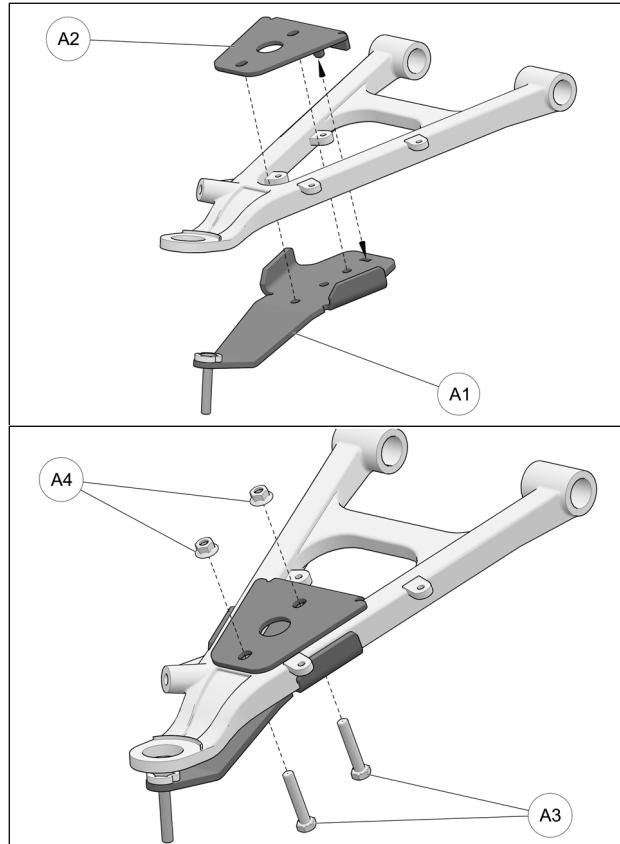

Fig. 16
5. Position bottom part of anchor bracket (**A1**) assembly under front lower suspension arm, as shown in the figure below. Position bracket cover (**A2**) over suspension arm and align holes in cover and bottom part. Insert M10x55mm bolts (**A3**) through top and secure the two parts together with nuts (**A4**) provided. Tighten assembly to 50 N·m [37 lb·ft] of torque. Refer to Fig. 16